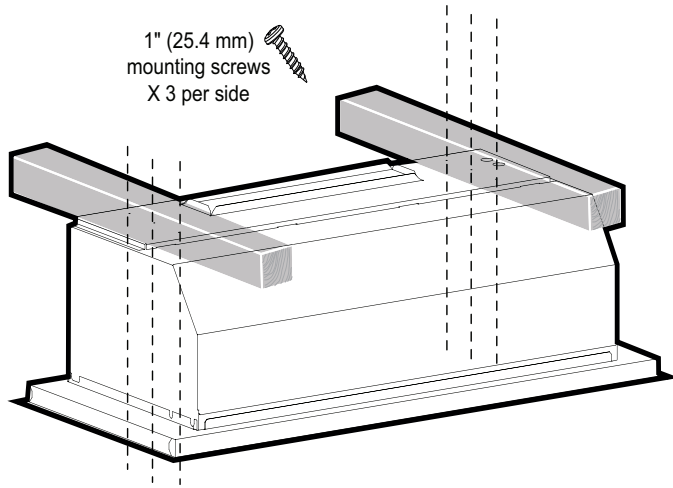

Figure 37: Side Screws
- c) Secure to the sides of the frame using six (6) 1" (25.4 mm) mounting screws provided (*Figure 37*).